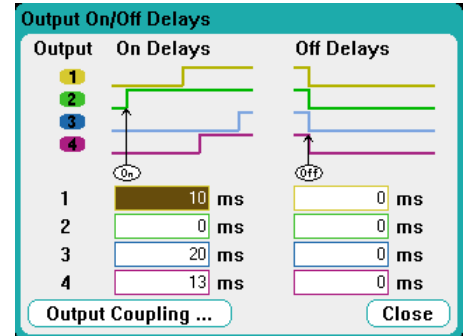
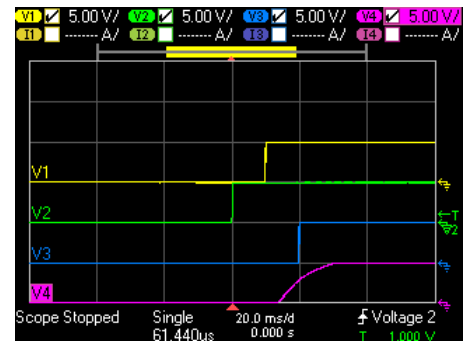

Figure 12 – Output On/Off Delays Configuration Page
Figure 13 – Output On Delay in Scope View
2. Press the "Settings" key twice to bring up the Output On/Off Delays screen (see Figure 12).
NOTE: As you enter values in for Outputs **1**, **2**, **3**, and **4**, the display will show a preview of the output sequence (see Figure 12 above). Later, you should compare this preview screen to the actual scope traces (see Figure 13 below).
- a. You should see a screen approximately the same as the one shown in Figure 13 above.